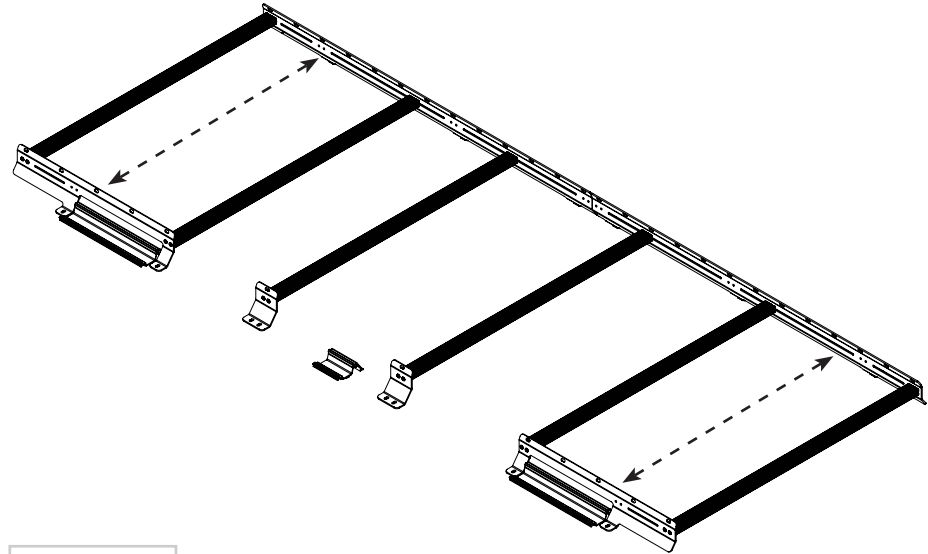

FIG 6
2.2 Install Front and Rear F80 Brackets: Next, find your **Front And Rear F80 Brackets** and Align them with the corresponding rails of the **Driver's Side (FIG 6)**.
2.3 Install Center F80 Brackets: Grab your Center Brackets and space them out in between the front and rear brackets. **FIG 6 and 7** depict an example layout of F80 brackets with the low pro roof rack. We show two center brackets installed, but use as many as needed as long as they don't interfere with your Fiamma mounting brackets. Loosely attach to the roof rails using the **3/8-16" Button Head Screws & 3/8" Lock Washers**.